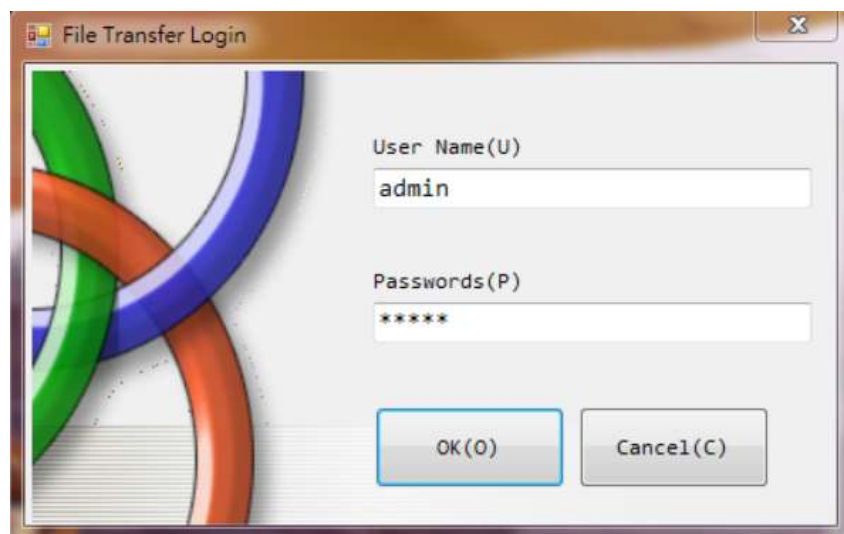

Figure 69
- 2 Enter the default “ User name and password ” when operating the software for the first time, as shown in Figure 69.